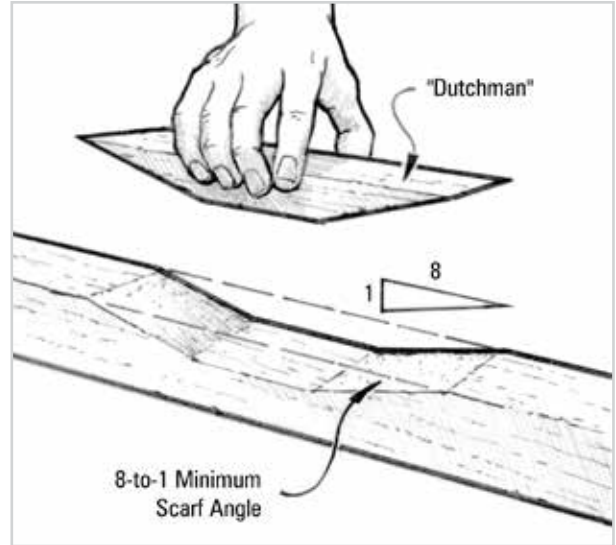

Figure 3-3 Bond a dutchman into larger cavities. Bevel the sides of the cavity and the dutchman to match.
1. Prepare the dutchman. Use the same kind of wood if possible. Carve the cavity to a geometric shape if necessary to make shaping the plug easier. Bevel the sides of the cavity. The longer the bevel on the sides running across the grain, the stronger the repair (Figure 3-3). An 8-to-1 bevel (8" long for every 1" deep) or greater will be close to the original strength of the wood. Check the dutchman for fit. Thickened epoxy will fill a fairly large gap, so the fit doesn't have to be perfect. Prepare the surfaces for bonding (Section 8.4.1).